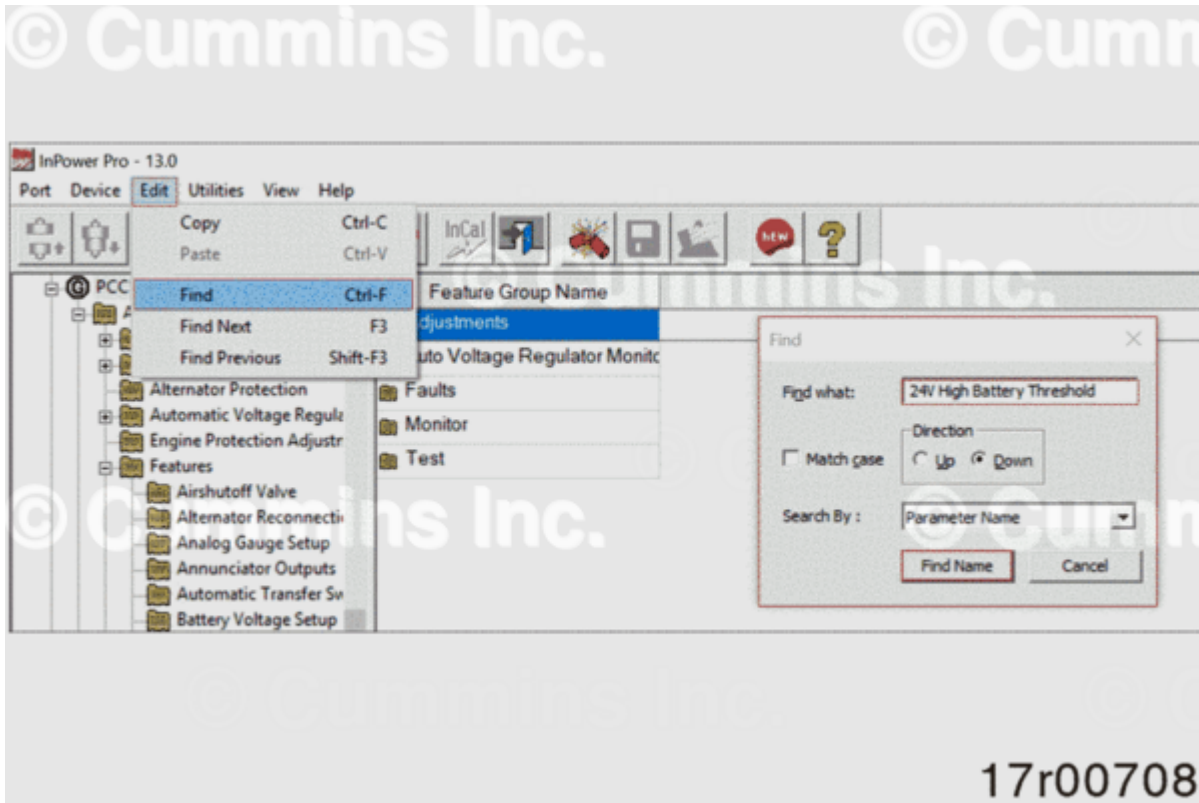

Figure 1, Finding the “24V High Battery Threshold” parameter
1. With InPower connected, press Ctrl + F buttons (or click in edit + find), type “24V High Battery Threshold” and click in Find Name button, as shown in the Figure 1.